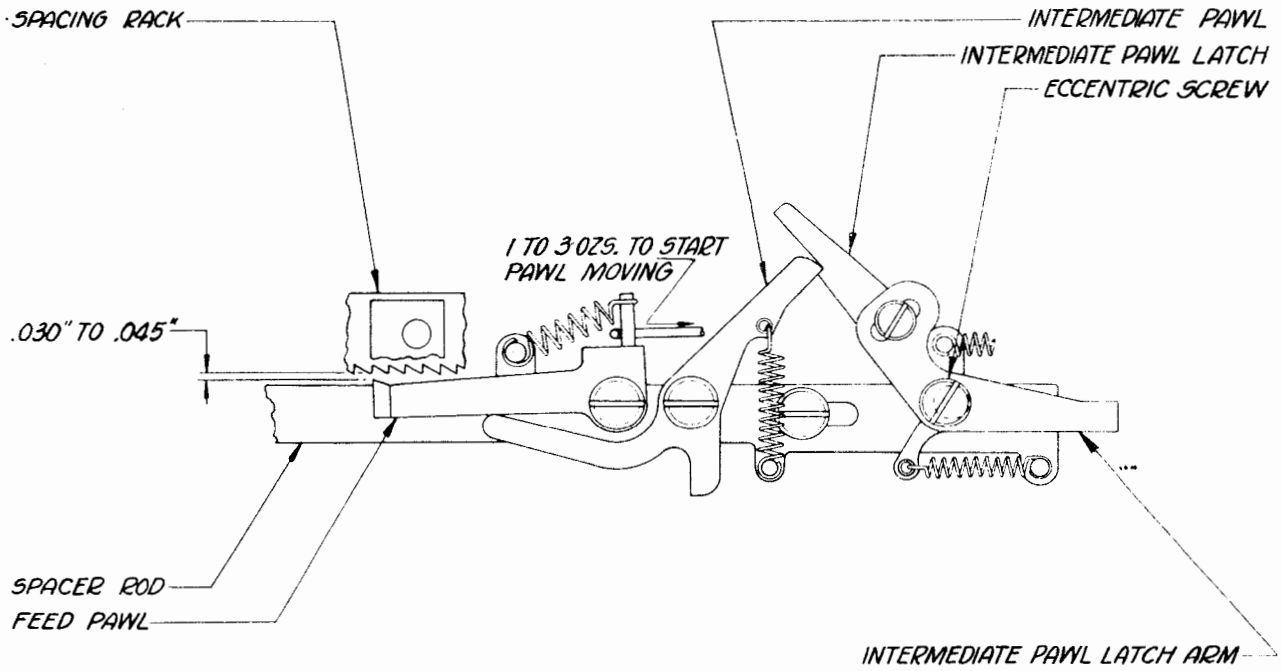

Figure 20
With the operating camsleeve in its stop position and the intermediate pawl in its latched position, there should be a clearance of minimum 0.030 inch, maximum 0.045 inch, between the feed pawl and the spacing-rack teeth. See Figure 20.
2.52 Justification-pointers Feed-pawl Spring: With the operating camsleeve in its stop position and the intermediate pawl in its latched position, hook a scale in the feed-pawl spring hole, just below the spring, and pull horizontally toward the right. It should require minimum 1 ounce, maximum 3 ounces, to start the feed pawl moving. See Figure 20.